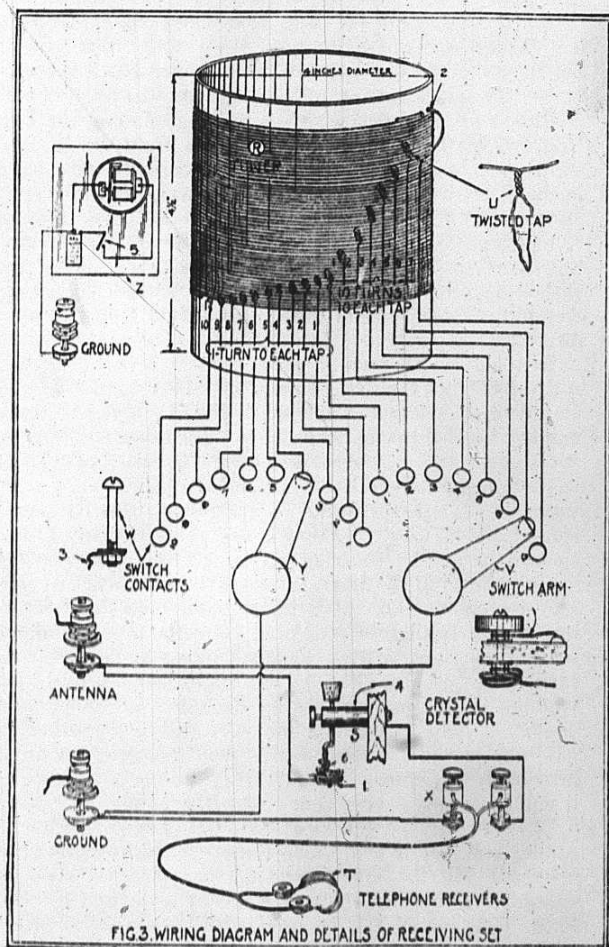

FIG. 3. WIRING DIAGRAM AND DETAILS OF RECEIVING SET
(a) **TUNING COIL** (*R*, Fig. 3).—This is a length of cardboard tubing with copper wire wound around it. The cardboard tubing may be an oatmeal box. Its construction is described in detail below. A cylinder of wood or other non-metallic substance may also be used.
(a) **CRYSTAL DETECTOR** (*S*, Fig. 3).—The crystal detector may be of very simple construction. A number of different kinds of crystals are suitable for use as detectors; these are discussed in detail in the book "The Principles Underlying Radio Communication." A galena crystal which will be satisfactory can usually be conveniently secured. Silicon is usually not as sensitive as galena, but is sometimes more easily obtained, and sensitive spots are often more easily located on silicon. It is important that a selected tested crystal be used.
The crystal may be held in place on the wood base by three brass wood screws, as shown at 1, Fig. 3. A bare copper wire is wrapped tightly around the three brass screws for connection.
(c) **PHONE** (*T*, Fig. 3).—It is desirable to use a pair of telephone receivers connected by a head band, usually called a double telephone head set. The telephone receivers may be any of the standard commercial makes having a resistance of between 2,000 and 3,000 ohms. The double telephone receivers may cost more than all the other parts of the station combined, but it is desirable to get them, especially if it is planned to improve the receiving set later. A single 1,000-ohm telephone receiver with a head band may be used but with less satisfactory results.
(a) **TUNING COIL** (*R*, Fig. 3).—The cardboard tubing is 4 inches in diameter by $4\frac{1}{2}$ inches long. One end of the tube should have the cardboard cover glued securely to it. About 2 ounces of No. 24 (or No. 26) double cotton-covered copper wire is used for winding the coil. Punch three holes in the tube $\frac{1}{2}$ inch from one end, as shown at 2 in Fig. 3. Weave the wire through these holes in such a way that the end of the wire will be firmly anchored, leaving about 12 inches of the wire free for connecting. Start with the remainder of the wire to wind the turns in a single layer about the tube, tightly and closely together. After 10 complete turns have been wound on the tube hold these turns tight and take off a tap. This tap is made by twisting a 6-inch loop of the wire together at such a place that it will be slightly staggered from the first connection. This method of taking off taps is shown clearly at *U*, Fig. 3. Proceed in this manner until 7 twisted taps have been taken off—one at every 10 turns. After these first 70 turns have been wound on the tube, take off a 6-inch twisted tap for every succeeding single turn until 10 additional turns have been wound on the tube. After winding the last turn of wire, anchor the end by weaving it through two holes punched in the tube as at the start, leaving about 12 inches of wire free for connection. It is to be understood that each of the 18 taps is slightly staggered from the one just above, so that the taps will be punched along one line on the cardboard tube (see Fig. 3). It might be advisable, after winding the tuning coil, to dip the tuner in hot paraffin. This will help to exclude moisture. It is important to have the paraffin heated until it just begins to smoke, as previously explained, so that when the tuner is removed it will have only a very thin coat of paraffin.
brass machine screws about $1\frac{1}{2}$ inches long with three nuts and two washers. The first nut binds the bolt to the panel, the second nut holds one of the short pieces of stiff wire, while the third nut holds the antenna or ground wire, as the case may be. The switch arm with knob shown at *V*, Fig. 3, may be purchased in the assembled form or it may be constructed from a $\frac{3}{8}$ -inch slice cut from a broom handle and a bolt of sufficient length equipped with four nuts and two washers, together with a strip of thin brass somewhat as shown. The end of the switch arm should be wide enough so that it will not drop between the contact points, but not so wide that it can not be set to touch only a single contact. The switch contacts (*W*, Fig. 3) may be of the regular type furnished for this purpose, or they may be 6/32 brass machine screws with one nut and one washer each; they may even be nails driven through the panel with the individual tap fastened under the head or soldered to the projection of the nail through the panel. The base is of wood approximately $\frac{3}{4}$ inch thick, $5\frac{1}{2}$ inches wide, and $10\frac{1}{2}$ inches long.
The telephone binding posts should preferably be of the set-screw type as shown at *X*, Fig. 3.
back of the left-hand switch-arm bolt (*Y*, Fig. 3), twisted into a spiral of one or two turns like a clock spring, and then led to the back of the binding post marked "ground." Connection is made to the binding post by removing the insulation from the wire and clamping between the nut and washer. The same wire is now passed through a small hole and run underneath the base to the left-hand binding post marked "phone." A wire is then run from underneath the right-hand binding post marked "phone" to the binding post 4, Fig. 3, which is part of the crystal detector. The copper wire, which was wrapped tightly about the three brass wood screws that hold the crystal in place, is led underneath the base, up through a small hole, and is then connected to the back of the binding post marked "antenna." Another wire is connected to the back of the right-hand switch-arm bolt (*V*), twisted into a spiral of one or two turns like a clock spring, and then connected to the back of the same binding post.
The taps leading from the tuner should now be connected to the switch contacts. Scrape the copper insulation from the loop ends of the 16 twisted taps as well as from the ends of the two single wire taps coming from the first and last turns. Fasten the bare ends of these wires to the proper switch contacts as shown by the corresponding numbers in Fig. 3. Be careful not to cut or break any of the looped taps. The connecting wires may be fastened to the switch contacts by binding them between the washer and the nut as shown at 3, Fig. 3. After all the wires from the tuner have been connected, the tuner should be fastened to the base by two or three small screws passing through the card-board end. The screws should be provided with washers.
(a) THE TEST BUZZER (*Z*, Fig. 3).—As stated, the more sensitive spots on the crystal can be found by using a test buzzer. The test buzzer is used as a miniature local transmitting set. This is shown at *Z*, Fig. 3. The
buzzer, dry battery, and switch (5) may be mounted on the table or a separate board. The binding post marked "ground" may be one terminal of the dry cell. The current produced by the buzzer will be converted into sound by the telephone receivers and the crystal, the loudness of the sound depending on what part of the crystal is in contact with the fine wire. To find the most sensitive spot, connect the binding post marked "ground" of the receiving set to the test buzzer binding post marked "ground," close to the switch (5, Fig. 3), and if necessary adjust the buzzer so that a clear note is emitted; set the right-switch arm on contact point No. 8 and connect the
telephone receivers to the binding posts. Loosen the set screw of the binding post (4) slightly and change the position of the fine wire (6, Fig. 3) to several positions of contact with the crystal until the loudest sound is heard in the phones; then slightly tighten the binding post set screw (4). The single wire connection between the test buzzer and the receiving set is all that is necessary to give a good test signal when the crystal detector is adjusted to a sensitive spot.